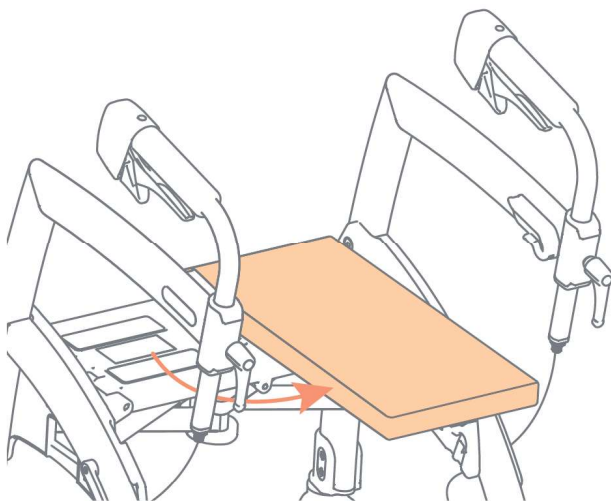

Figure 9
2. Pull the seat cushion away, turn it 90 degrees and place it crosswise on the side of the red handle (Figure 9).